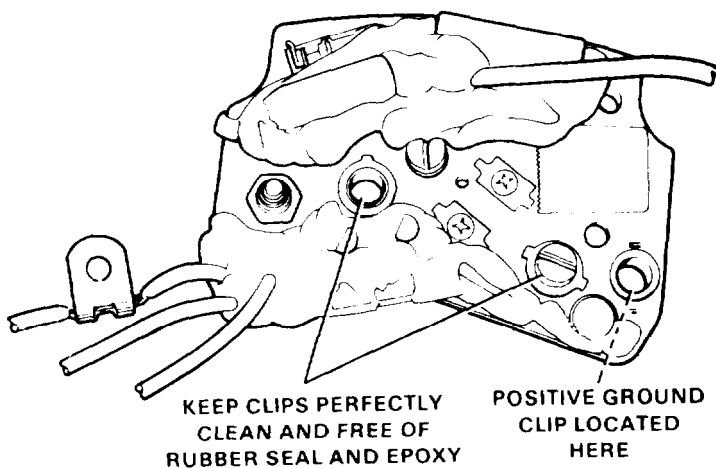

Figure 10D-19. Rubber Seal Applied to Regulator
15. Apply sealing compound as shown in Figure 10D-19 around components using Dow Chemical RTV Silastic 732 silicone rubber seal or equivalent, available at hardware stores. Keep metal clips perfectly clean and free of rubber seal.
1. Place over each stud **IN THIS ORDER** (see Figure 10D-14 on page 10D-13); the two diode leads, the stator lead, the (R) terminal lead on one stud only, the regulator lead and the nut.